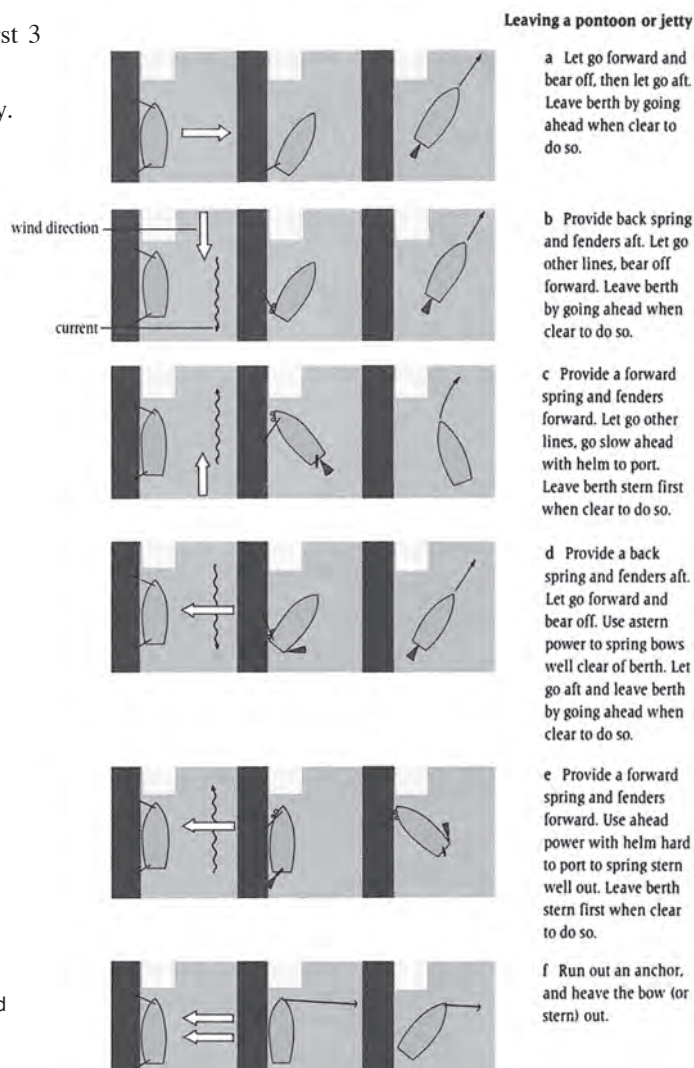

Figure 40.3 Docking under a variety of conditions (Illustration courtesy AGPS)
- Figure 40.3 shows other situations involved in docking under a variety of conditions of wind and tide